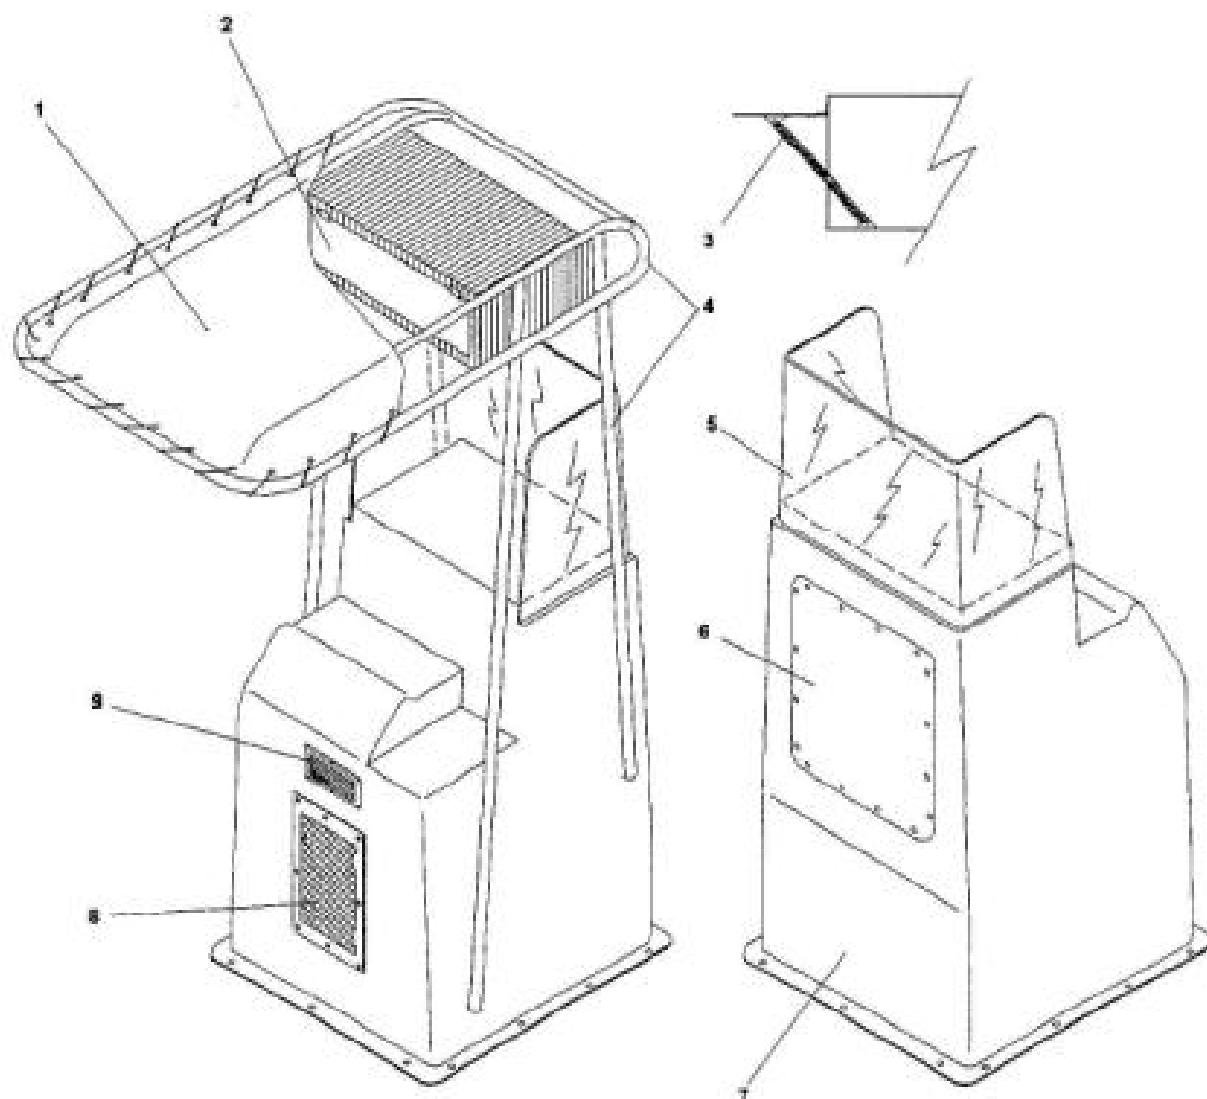

Figure 3-2-3 Patrol Console - Large Fibreglass (FRP)
3. Large FRP patrol console (see Figure 3-2-3).